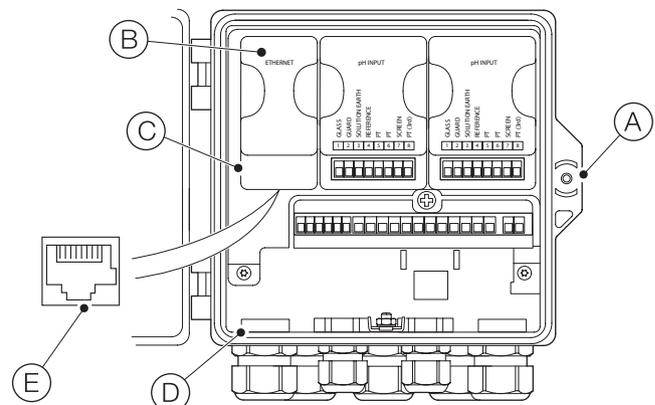

Figure 3 Ethernet module installation
- Ⓓ M20 – Ethernet cable entry – see Figure 3, page 6
Referring to Figure 3: